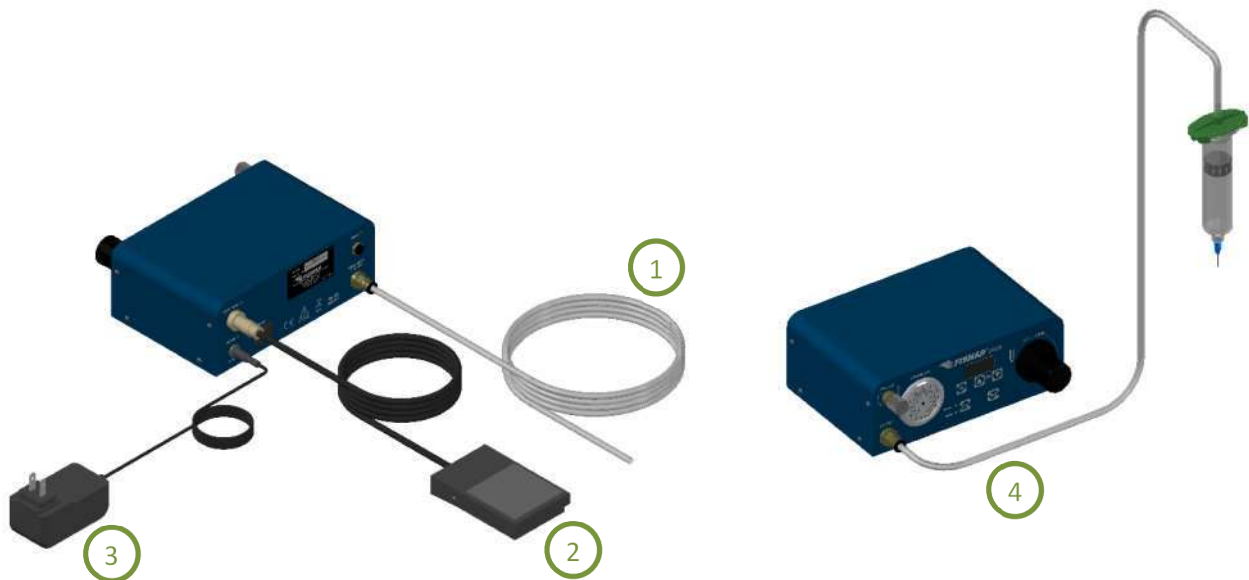

FIG. 5: Front and Back Views
1.	Connect air hose (1) from compressed air 70-100 psi (5-7 bar) to the air inlet port on the back of the machine. See FIG. 5.
2.	Insert the Foot Pedal connector (2) to the port on the back of the machine. See FIG. 5.
3.	Attach appropriate country type plug adapter onto the power supply and then connect Electrical Power Cord (3) to the port on the back of the machine. See FIG. 5.
1.	Connect the syringe barrel adapter air tube to the “Air Out” port on the front of the machine. (4) See FIG. 5. Can be standard use with Fisnar adapter head assemblies supplied with green color push to connect fitting (5606038).